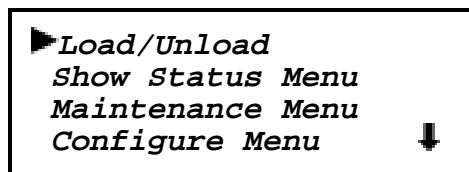

Figure 3-32 Main Menu
2. On the control panel of the Global Control Module, at the Default Screen, press the **Enter** button to display the Main Menu shown in Figure 3-32. *Note:* if the display says that the front panel is locked, you need to know the unlock code for your system. See the section titled 'Entering the Menu Mode' earlier in this chapter for unlocking instructions.